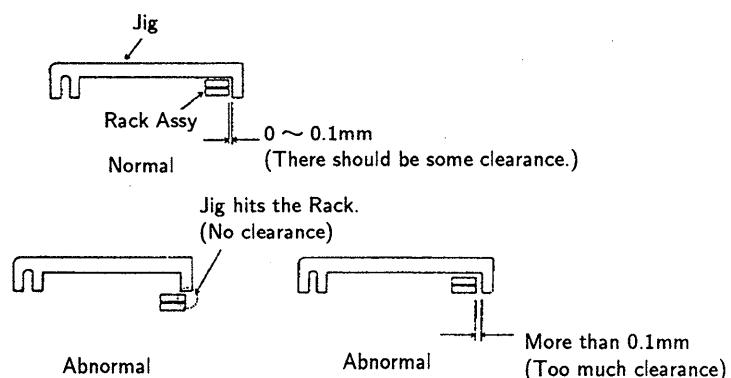

Fig. 4
- (4) Confirn the clearance between the teeth of rack gear and the jig as shown in figure 4.